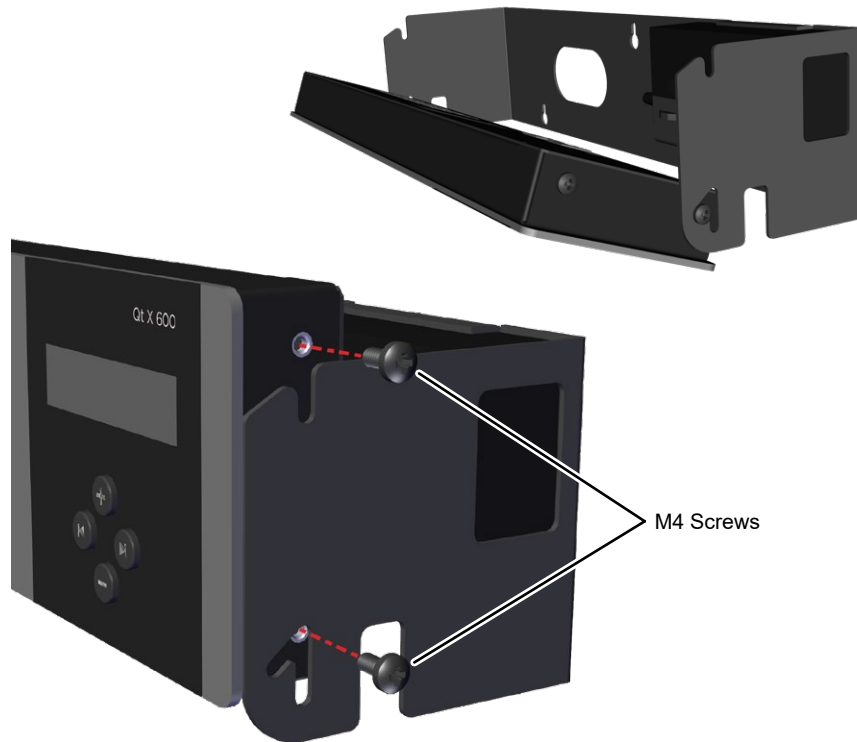

Figure 9. Mount unit to wall bracket and rotate down
- Attach the controller to the wall bracket by aligning the lower holes on either side with the angled slot. Install the lower screws, but do not tighten, allowing the bracket to move. Loosely install the upper screws without capturing the upper slots in the bracket (Figure 9). The control module rotates forward for wall mounting and cable installation.